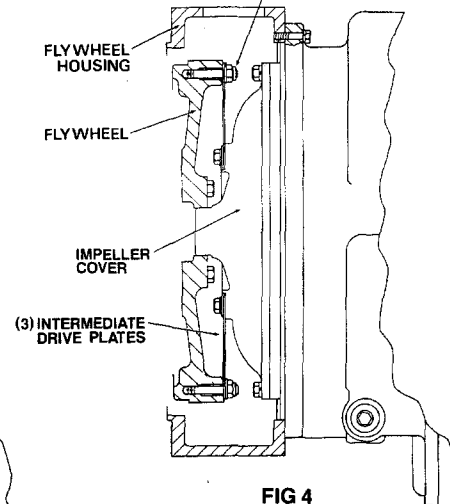

FIG 4
5. Locate transmission on flywheel housing aligning drive plate to flywheel and transmission to flywheel housing. **NOTE:** Fig. 4 installation, align drive plate holes with flywheel studs.
7. Install drive plate attaching screw and washer. Snug screw but **do not tighten**. **NOTE:** Fig. 4 installation, install drive plate attaching washers and nuts. Tighten each nut 28 to 30 ft. lbs. torque [3,9 - 4,1 m.kg]. Some engine flywheel housings have a hole located on the flywheel housing circumference in line with the drive plate screw access hole. A screwdriver or pry bar used to hold the drive plate against the flywheel will facilitate installation of the drive plate screws. Rotate the engine flywheel and install the remaining seven (7) flywheel to drive plate attaching screws. Snug screws but do not tighten. After all eight (8) screws are installed torque each one 25 to 30 ft. lbs. torque [3,46 - 4,14 m.kg]. This will require torquing each screw and rotating the engine flywheel until the full amount of eight (8) screws have been tightened.
\* Does not apply to units having 3 intermediate drive plates. See Fig. 4.